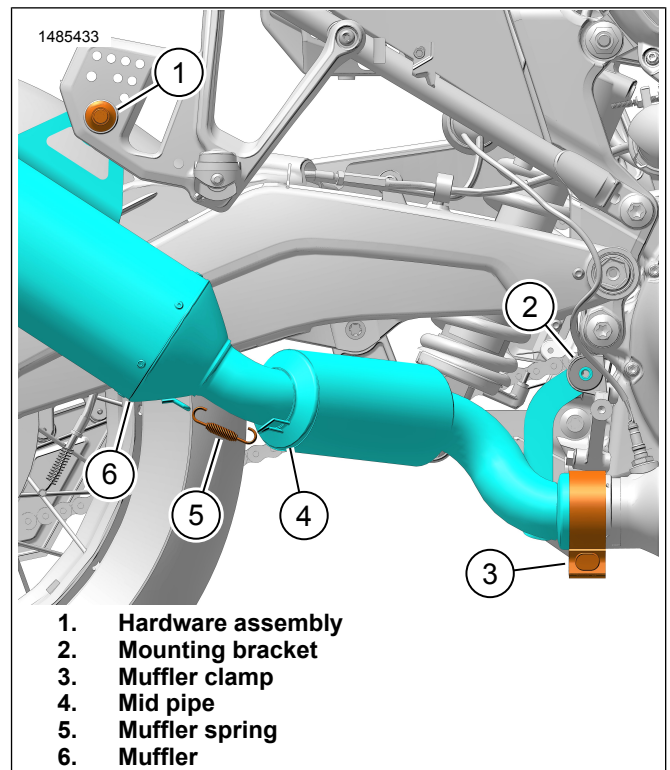

Figure 4. Screamin Eagle Muffler Assembly
1. Figure 4 Install mid pipe (4) to muffer (6).
2. Install muffer spring (5) to spring mounting tabs on mid pipe and muffer.
3. Install **new** muffler clamp (3) to mid pipe (4).